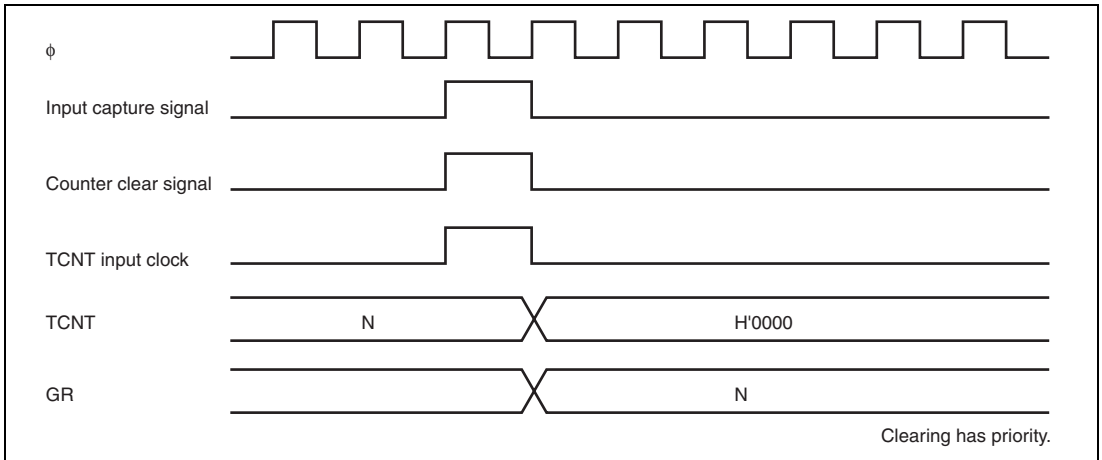

Figure 12.57 Contention between Count Clearing and Increment Operations by Input Capture
6. **Contention between Count Clearing and Increment Operations by Input Capture:** If an input capture and increment signals are simultaneously generated, count clearing by the input capture operation has priority without an increment operation. The TCNT contents before clearing counter are transferred to GR. Figure 12.57 shows the timing in this case.